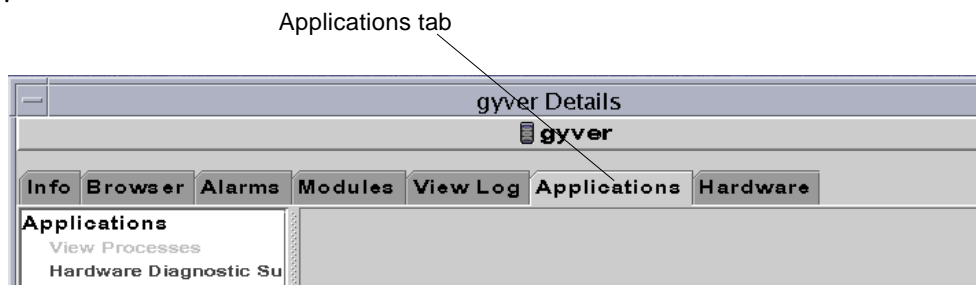

FIGURE 2-5 Applications Tab
3. Click on the **Applications** tab (FIGURE 2-5) to access the Sun Management Center add-on products